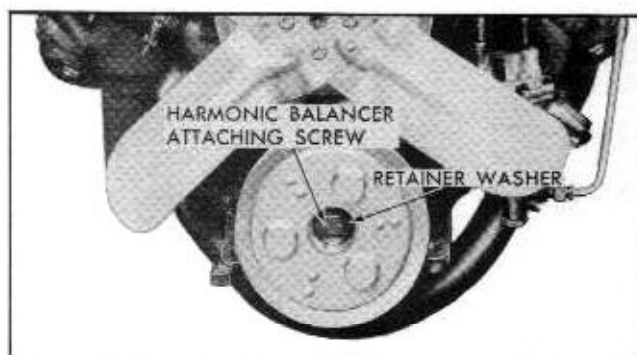

Fig. 6-25 Harmonic Balancer
2. Position fan so wide angles will be at top and bottom allowing access to balancer (Fig. 6-25).